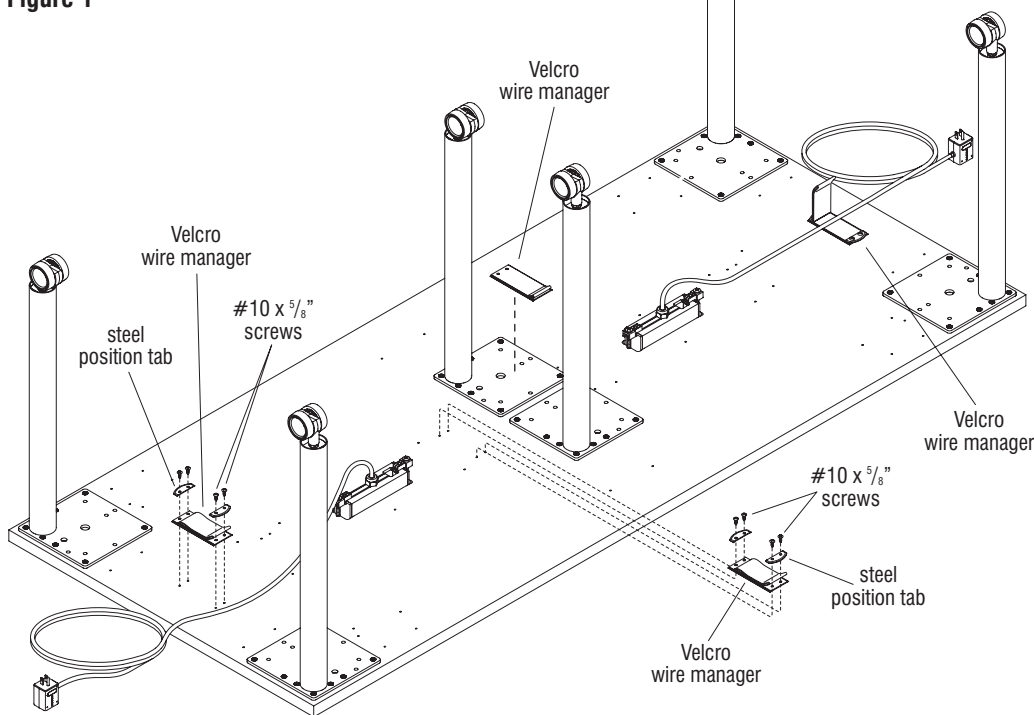

Figure 2
1. If the tables being assembled are 36" deep by 42"-72" wide, position the two Velcro® wire managers over the pre-drilled wire manager holes in the underside of the tabletop. Locate and place two steel position tabs, one at each end over the mounting holes in the wire manager, then secure using four #10 x 5/8" screws, through the two position tabs, wire manager mounting holes and into the tabletop. Do not over-tighten (Figure 2).